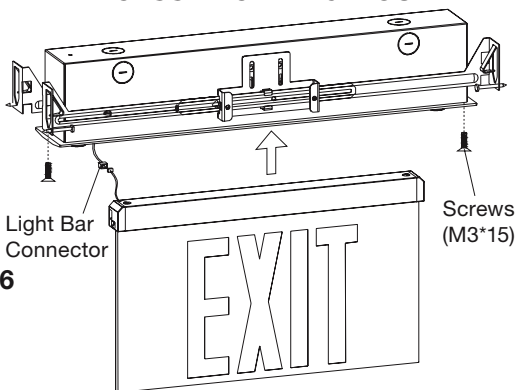

FIG. 6
7. Assemble trim blackplate by using M3*15mm screws. (see Fig. 6 or 7)
8. Connect light bar connector and assembly panel module to trim plate. Adjust position of lamp heads as need. (see Fig. 6 or 7)